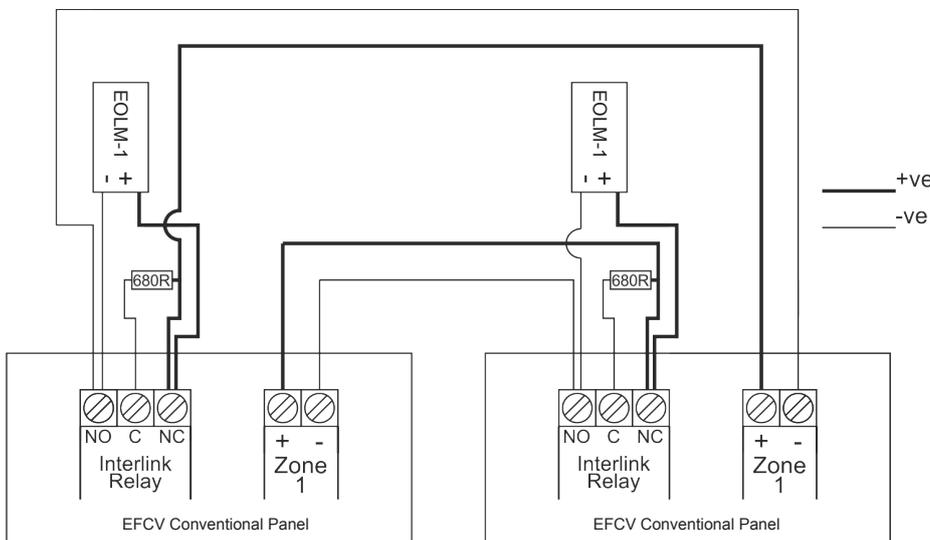

Figure 22: Repeater Output Setting
- Wire the two panels together as shown in Figure 22.